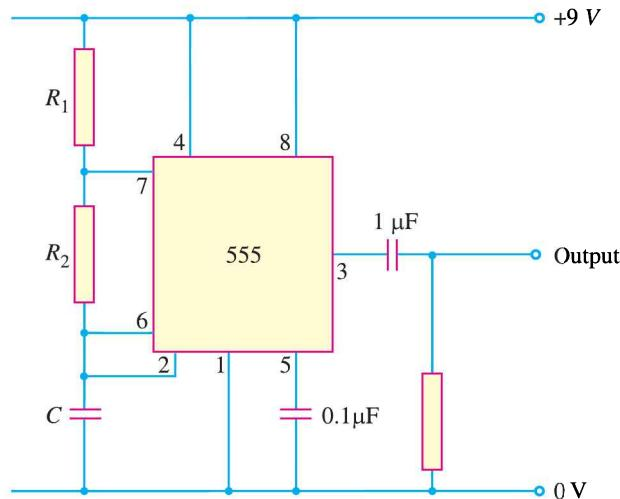

Fig. 23.18
(iv) **The 555 Timer as astable multivibrator.** Fig. 23.18 shows the 555 timer as an astable multivibrator. Note that the circuit contains two resistors (R_1 and R_2) and one capacitor (C) and does not have an input from any other circuit. The lack of a triggering signal from an external source is the circuit recognition feature of the astable multivibrator.
Example 23.3. Determine the frequency of the circuit shown in Fig. 23.18. Given that $R_1 = 3 \text{ k}\Omega$; $R_2 = 2.7 \text{ k}\Omega$ and $C = 0.033 \mu\text{F}$.